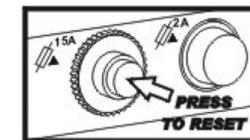

Fig.19
- Press the CIRCUIT BREAKER Button to reset it. (FIG. 19)